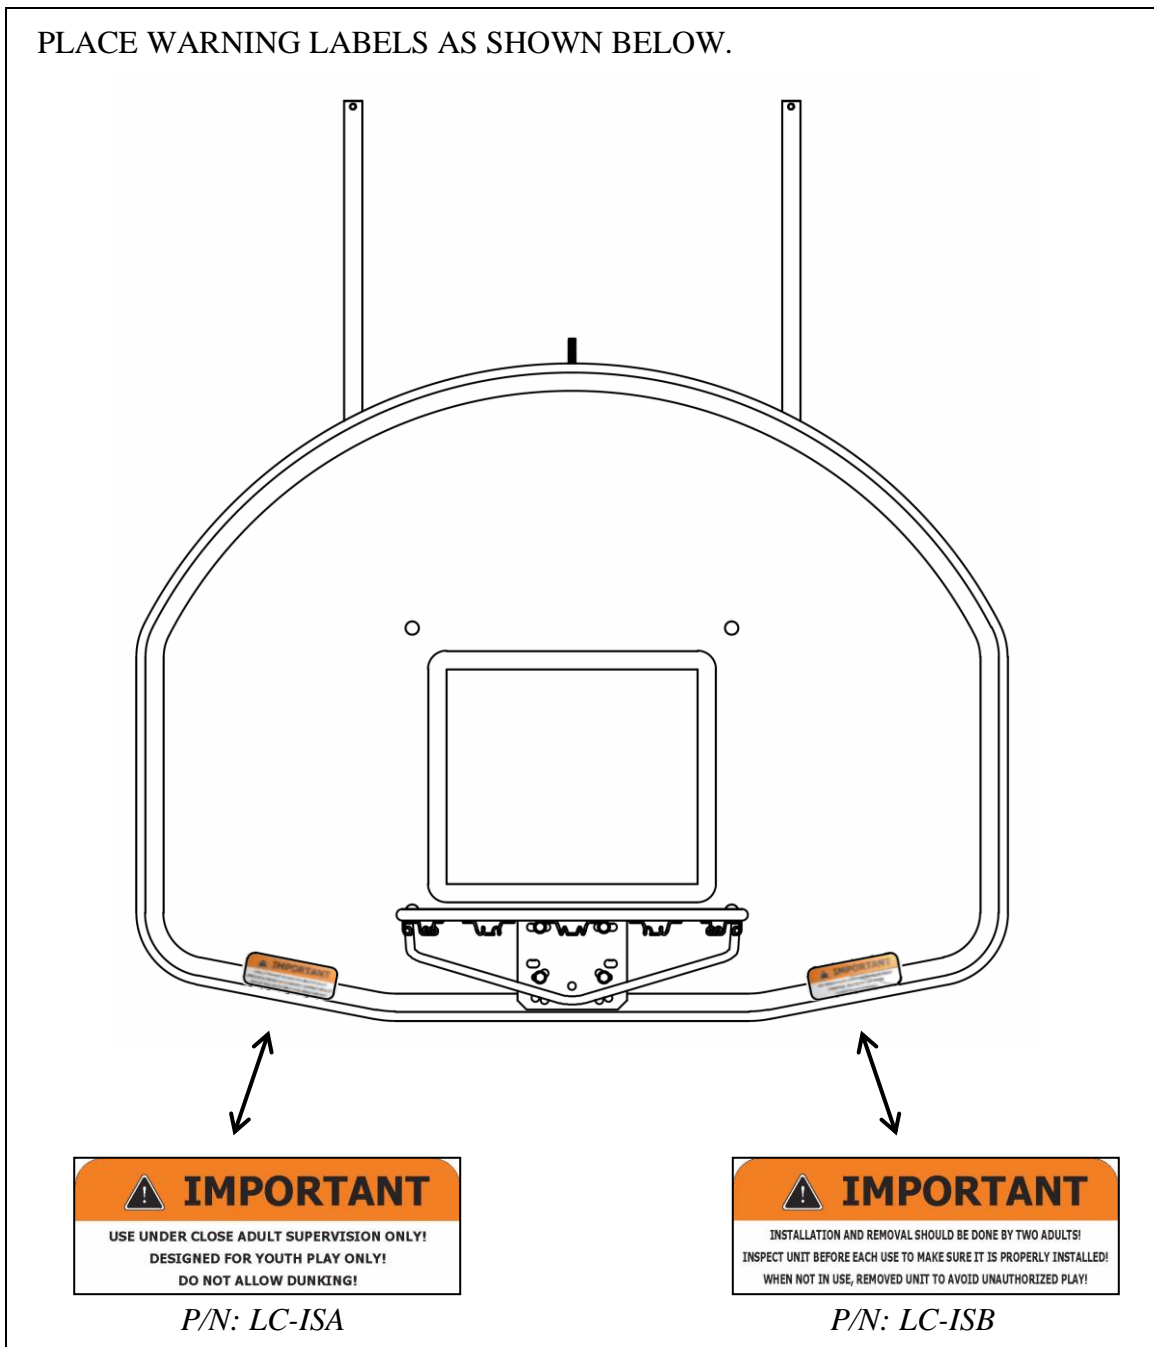

Figure 8 (Warning Label Placements)
- 10) Apply important warning labels as shown in Figure 8.